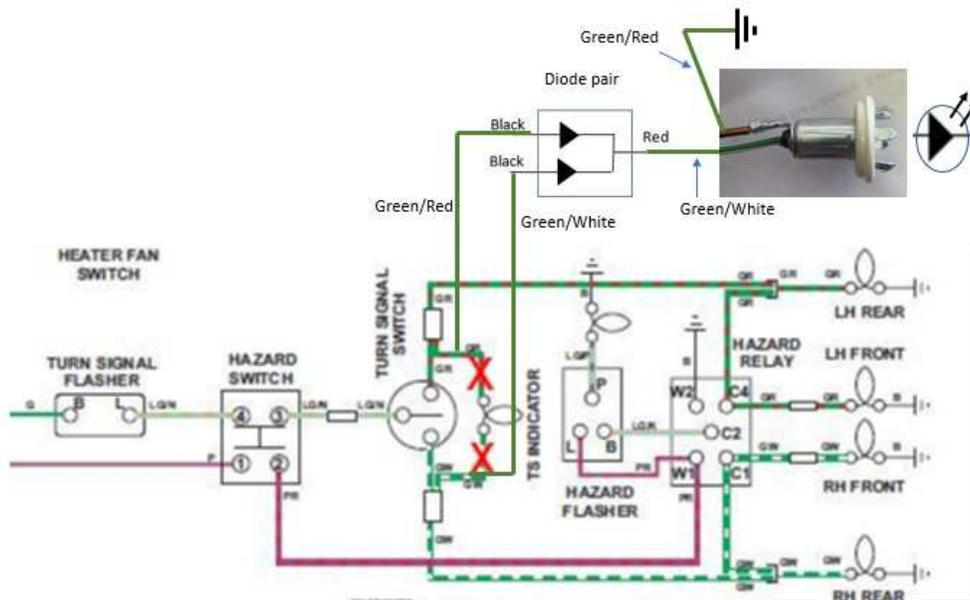

Figure 2 – Modified with steering diodes
7. When complete the installation will have the electrical connection as shown in Fig 2.